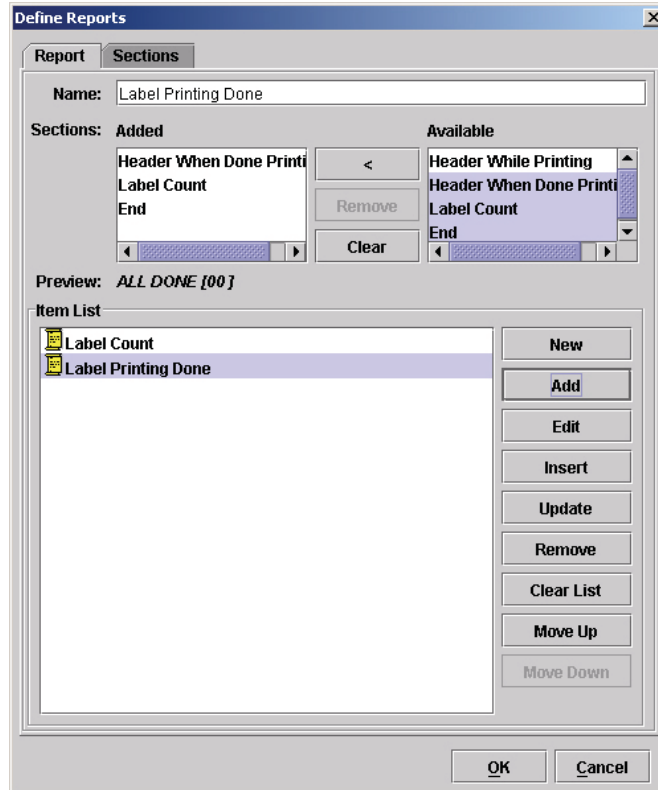

Figure 219 Adding Sections to a Report
13. Click the **Add** button. Label Printing Done is added to the item list. See Figure 219.